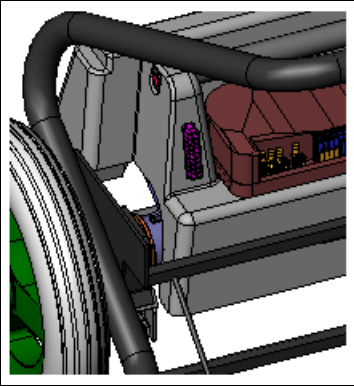

Figure 22
- Disconnect the electrical connector coming from the frame to the power unit Socket (See **Figure 22**)